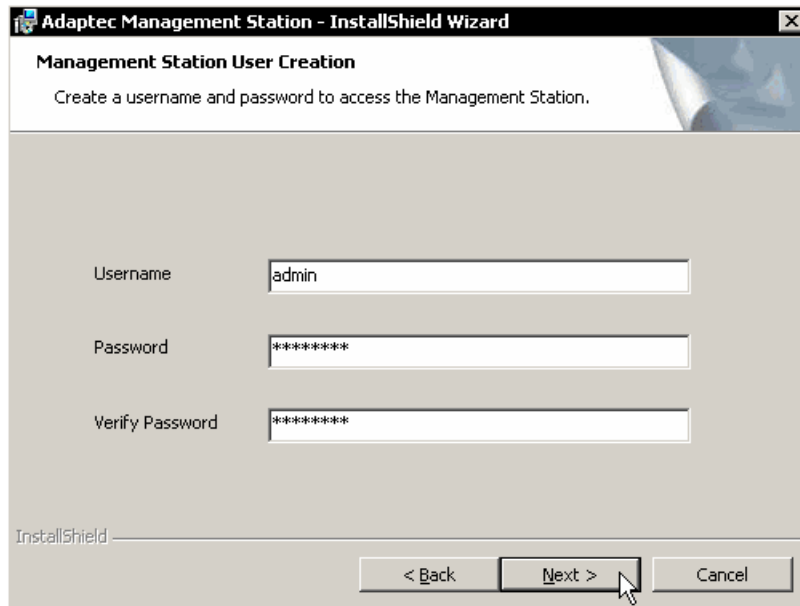

Figure 11 Management Station Username and Password
4. During the install process define a Username and Password for the server, as shown in Figure 11 on page 12.